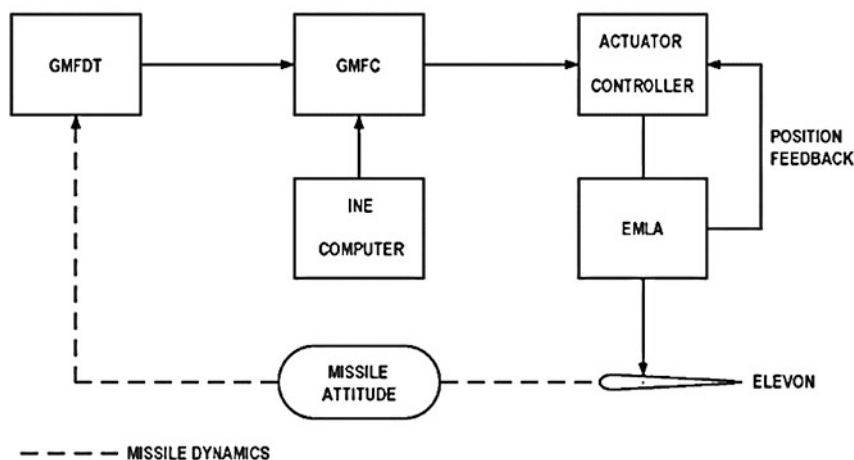

Figure 3-8. Functional (block) diagram example (AGM-86B Flight Control System).
Let's look at the missile FCS functional diagram example below (fig. 3-8). The components are in blocks with the solid lined arrows showing the signal path of each component used to result in elevon movement. The dashed line shows that the elevon position effects the missile altitude, which is a flight data, input for the FDT. It also shows the elevon and FDT are not physically connected.
3. Interpret which component receives the position feedback signal from the EMLA using Figure 3-8, Functional (block) diagram example (AGM-86B Flight Control System).